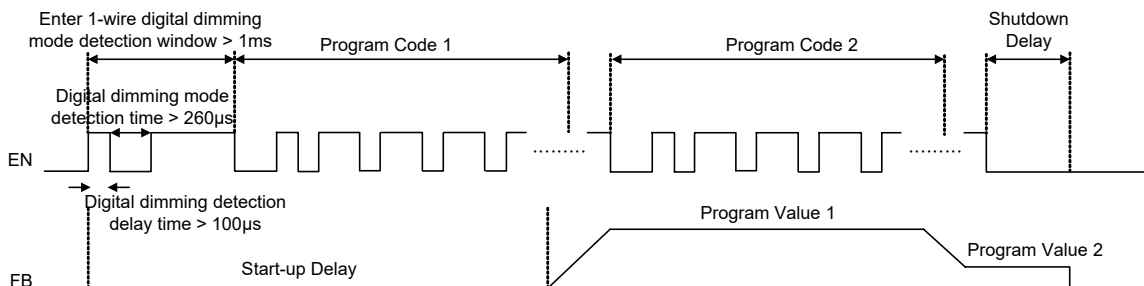

Figure 4. Start-Up for Digital Dimming Mode
- ▶ Pull the EN pin high after the detection time (260 $\mu$ s) and before the detection window ( $t_{ES\_Win}$ , 1ms), once the above 3 conditions are met, the IC immediately enters the digital 1-wire dimming mode. The digital dimming communication can start before the detection window expires. Once the dimming mode is selected, it can not be changed without another start up. This means the IC needs to be shut down by pulling the EN low for 2.5ms and restarts. See the dimming mode detection and soft-start (see Figure 4) for a graphical explanation.